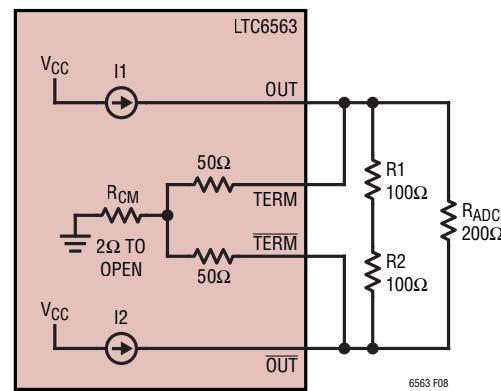
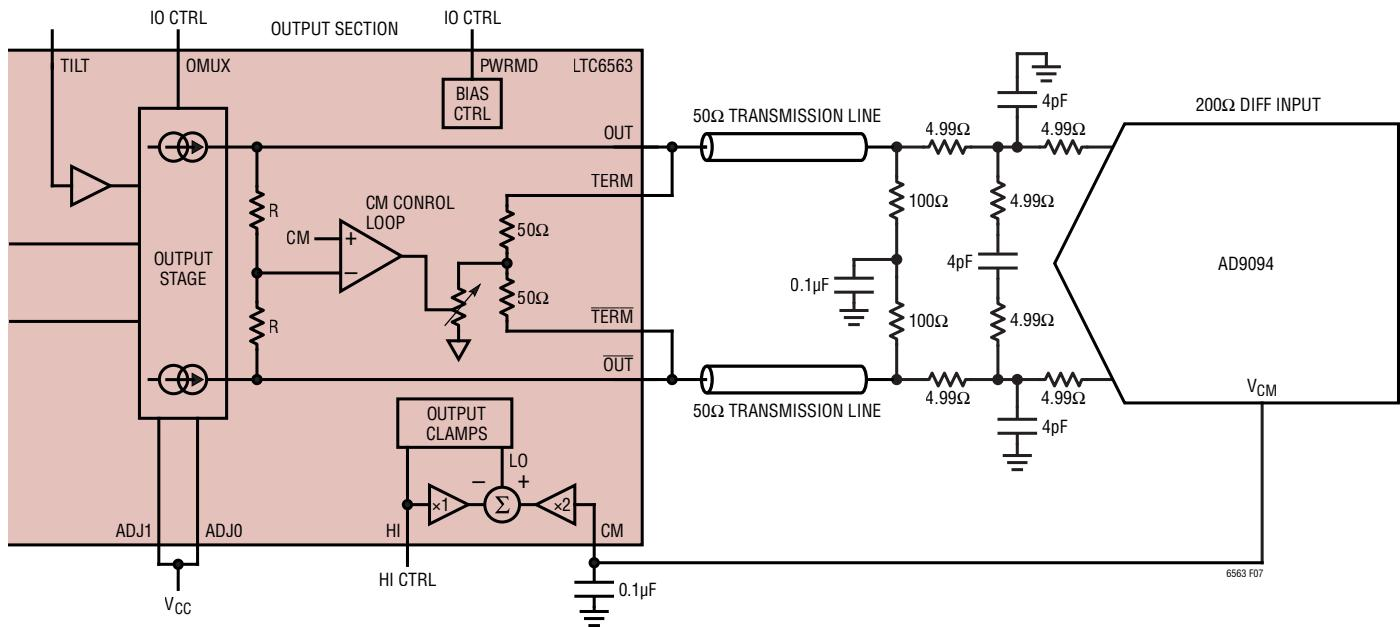

Figure 8. Equivalent Circuit for Driving an ADC with no GND (CM Referenced) External Load
Figure 7. Typical Connection for CM Control/ADC Driving
CM servo loop's voltage range is easily calculated using Ohm's law, as the output circuit can be described as a pair of current sources and a resistor network (see Figure 8). The amount of current supplied by the OUT and  $\overline{OUT}$  current sources is determined by the ADJ setting, and the impedance at the output pins is determined by the internal and external resistor networks. These factors will determine the range of possible DC voltages at the outputs.
With an external load connected, the output CM current splits between the internal TERM pin and the external load. However, with the configuration shown in Figure 7 and simplified in Figure 8, with no external CM DC current path to ground, the entire output CM current must flow through the internal TERM resistor(s).
In Figure 8, the external loading by the ADC and the cable termination network of  $R_1$ , and  $R_2$  has no effect on the CM loading of the LTC6563. The range of output CM voltage will be as follows:
Naturally, if the ADJ setting is changed, the  $V_{CMO}$  range will vary accordingly. Table 5 shows the minimum computed output CM voltage, output full scale swing, and TIA gain (RT) for various ADJ settings applied to the circuit in Figure 7.
Table 5. CM Minimum Voltage and Other Operating Performance Values for Various ADJ Settings of Figure 7
For the particular case of Figure 7 schematic modified to include  $R_{\text{TEE}} = 20\Omega$  with ADJ = 11 ( $I_0 = 28\text{mA}$  from Table 1), the AD9094 CM voltage requirement (1.43V) would be easily satisfied since the CM servo loop would be able to adjust the output CM from 1.1V minimum (with  $R_{\text{CM}} = 2\Omega$ , previously 1.51V minimum from Table 5 without  $R_{\text{TEE}}$ ) to >2.3V (device output compliance voltage) maximum using Equation 3.